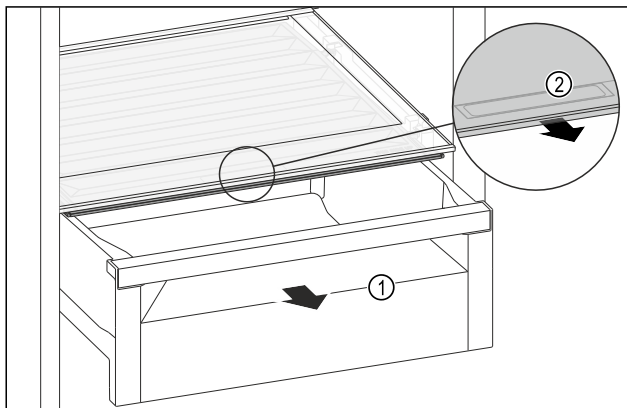

Fig. 108
- ▶ Pull out the drawer Fig. 108 (1).
- ▶ Grasp the recessed grip Fig. 108 (2) on the compartment lid and pull the compartment lid forwards at the same time.